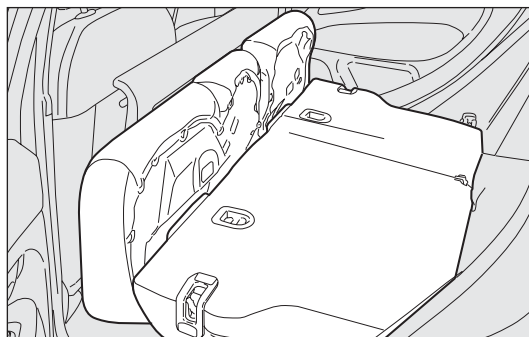

fig. 95
Full extension fig. 95
- ☐ lift handles A and B-fig. 95 to release the backrests and guide them down onto the cushion.
Repositioning the rear seat fig. 95